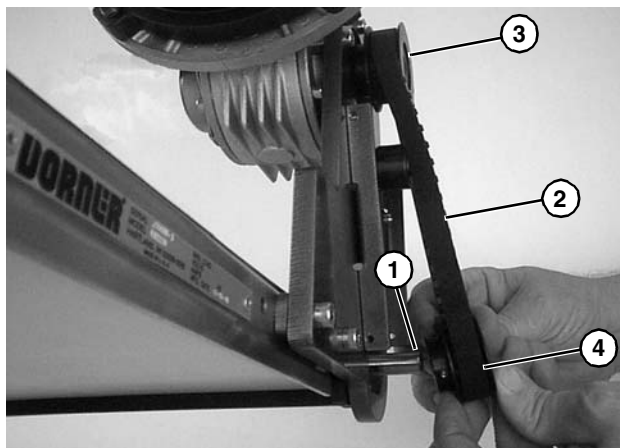

Figure 19
7. Install key (Figure 19, item 1).
8. Wrap timing belt (Figure 19, item 2) around driven pulley (Figure 19, item 3) and drive pulley (Figure 19, item 4). Install driven pulley (Figure 19, item 3) onto conveyor shaft.